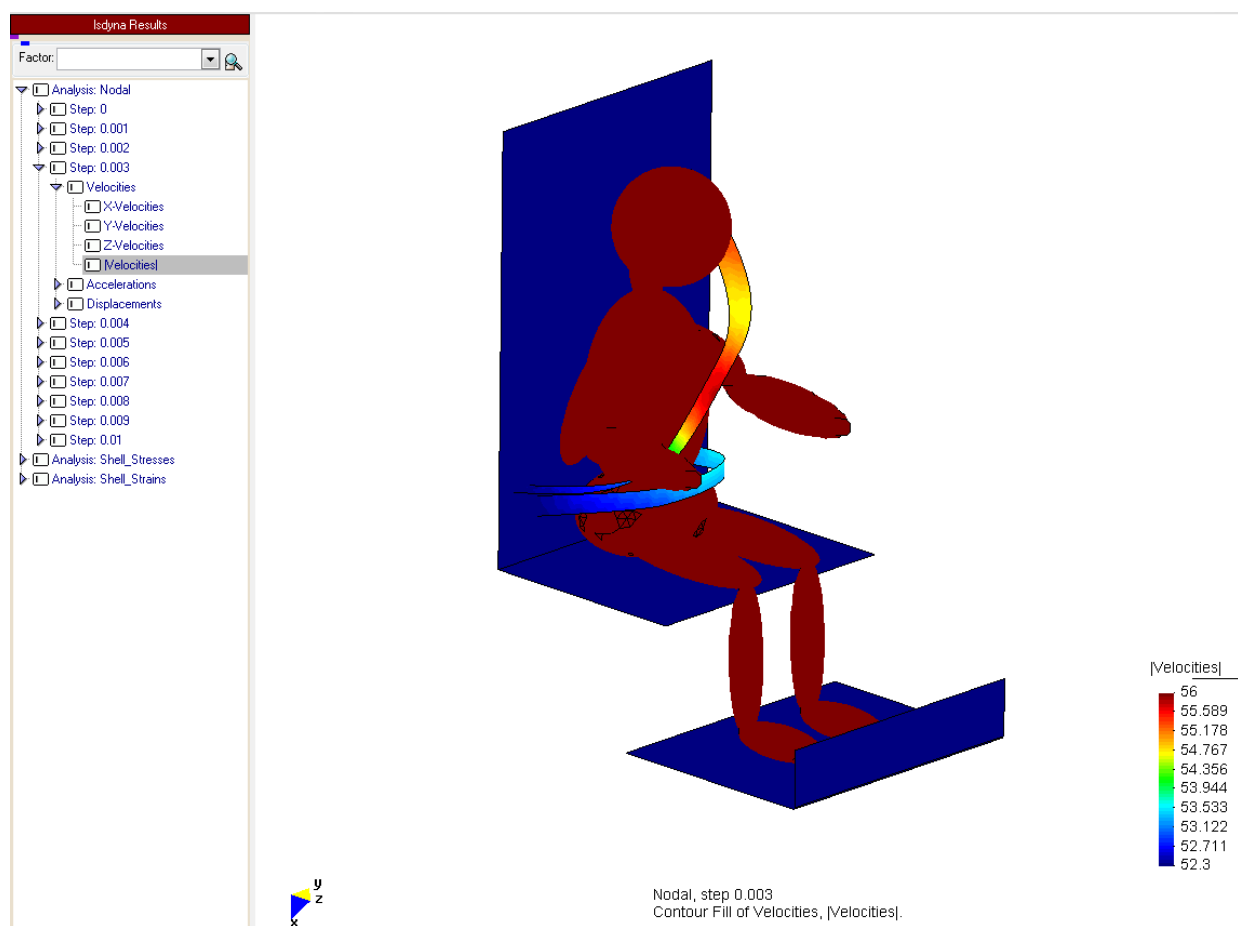

Figure 9. Velocity contour fill
4. From the postprocessing interface menu, select **Analysis:Nodal->Step:0.003->Velocities->|Velocities|** to study velocity contours at $t=0.003$ s (Figure 9)